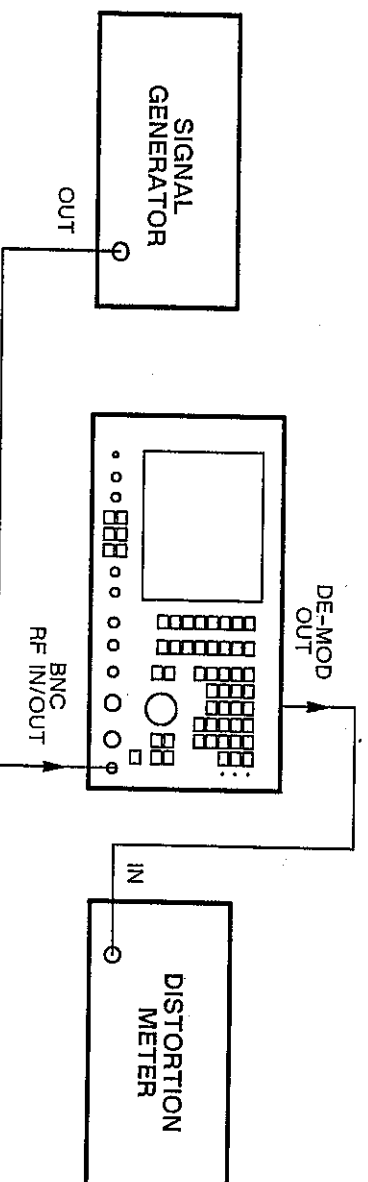

Fig. 6-3 Test equipment connections for modulation meter demodulation distortion
- (1) Connect the signal generator to the RF IN/OUT BNC socket. Connect the distortion meter to the DE-MOD OUT socket. See in Fig. 6-3.
- (2) On the 2955A, set the MODE to TRANSMITTER TEST, MOD to AM, FILTER to 0.3-3.4 kHz BAND PASS and RF IN/OUT socket to BNC.
- (3) Set the signal generator carrier frequency to 100 MHz, level to 0 dBm, 30% AM and 1 kHz internal modulating frequency.
- (4) Tune the distortion meter and check that the reading is <2%.
- (5) Set the signal generator frequency to 12 MHz. Tune the distortion meter and check that the reading is <5%.